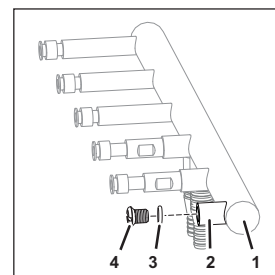

Fig. 17
2. Place the seal (Fig. 17/3) over the locking screw (Fig. 17/4) and close the connection (Fig. 17/2) of the soda dispenser (Fig. 17/1) using the locking screw (Fig. 17/4).